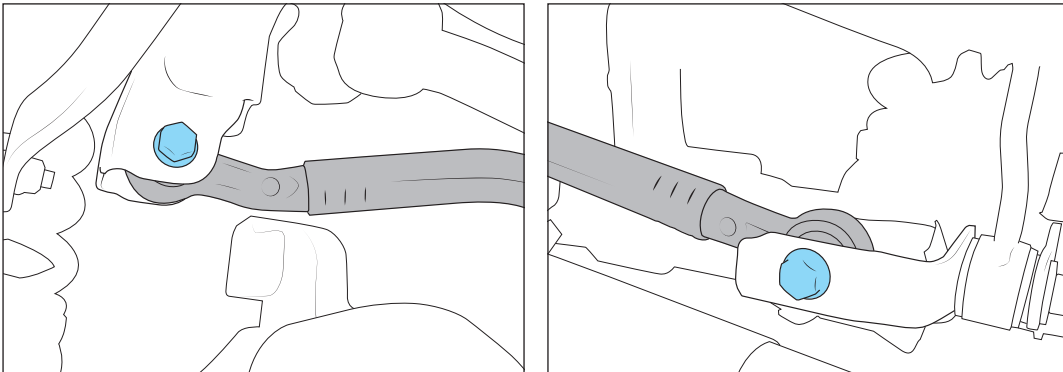

Figure 12: Frame-side (left) Axle-side (right)
3. Loosen but DO NOT remove both track bar bolts (Fig 12).